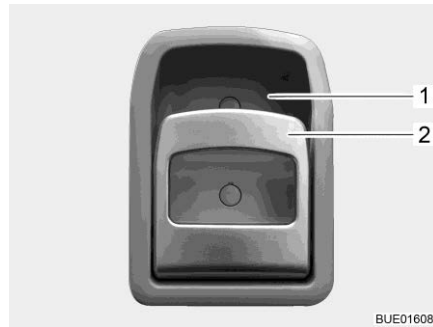

Fig. 64 Door lock (conversion door, inside)
- Opening:** ■ Pull on the handle (Fig. 64,2). The door lock is unlatched or opened.
- Locking:** ■ Press the upper part of the handle (Fig. 64,2) in the direction of the recessed handle (Fig. 64,1). The door lock is locked.